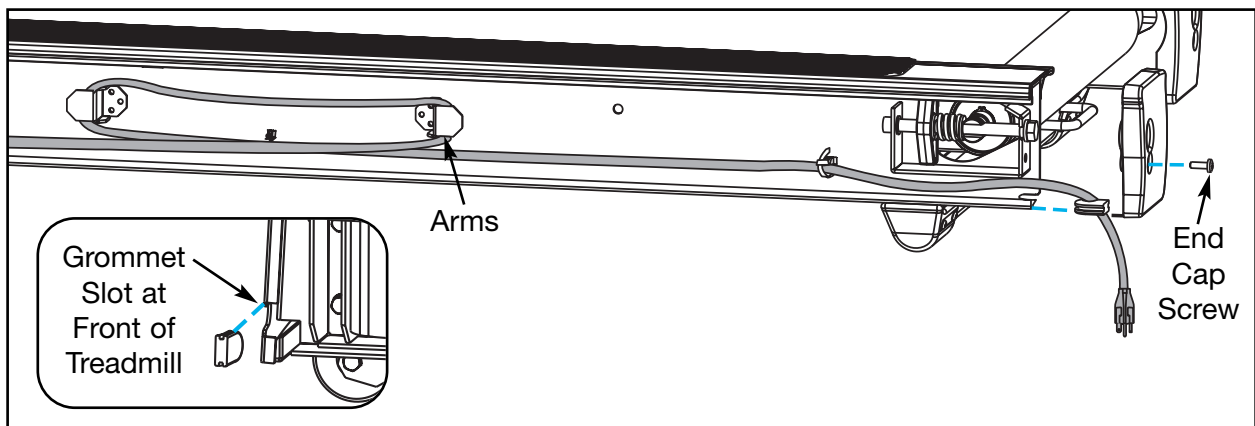

Figure 12
- d. Using a Phillips head screwdriver secure the left end cap. See Figure 12.
- B. Wind the excess power cord onto the arms. See Figure 12.